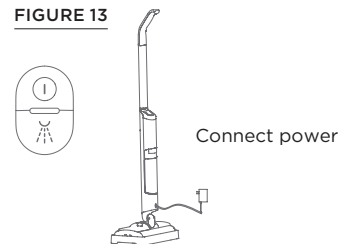

**FIGURE 12**
1. Remove clean water tank and fill with water containing cleaning shampoo to the self-cleaning water line, 260ml. (Figure 12)